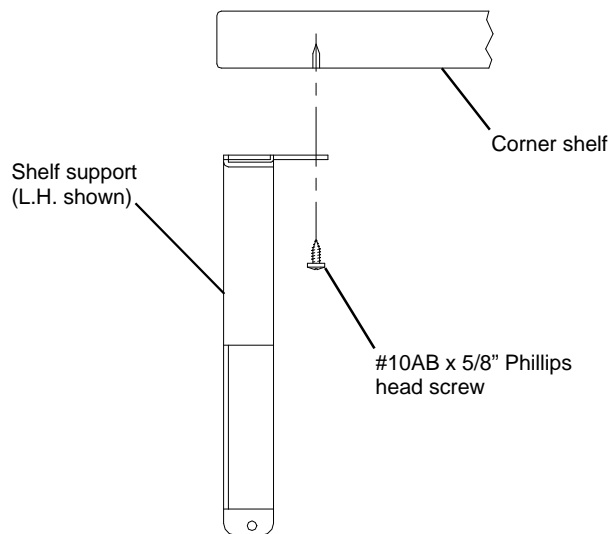

Figure 2
4. Fasten the shelf to the R.H. and L.H. supports with the four #10AB x 5/8" Phillips head screws provided. See **Figure 2**.